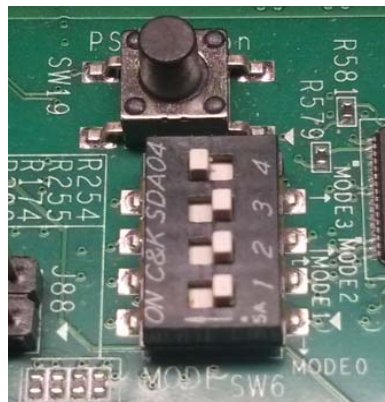

Figure 5-31: SW6 Settings for USB Boot Mode
4. Start a terminal session, using Tera Term or Minicom depending on the host machine being used, as well as the COM port and baud rate for your system, as shown in Figure 5-31.